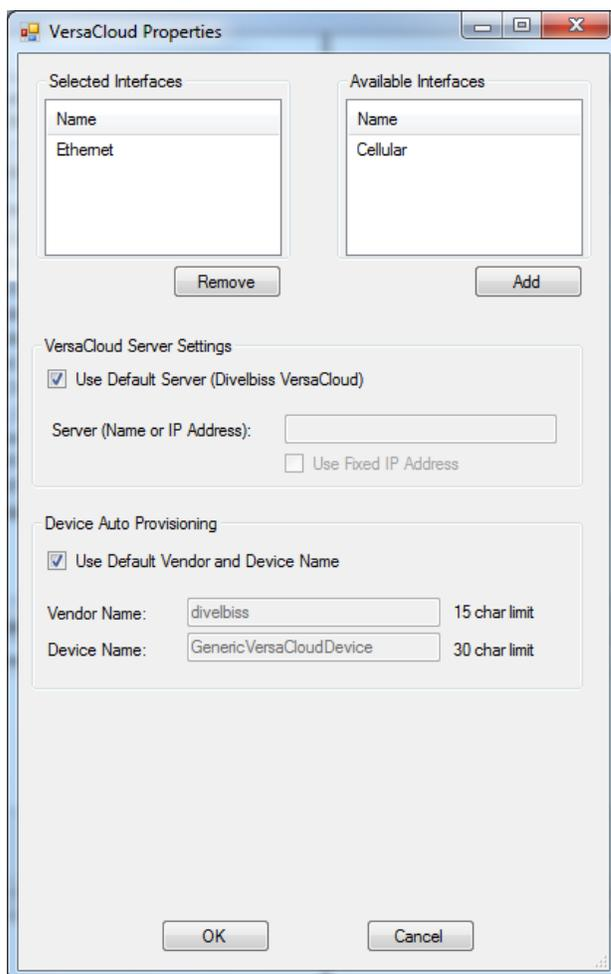

Figure 2-42 - VersaCloud Properties
- Click **OK**. The **VersaCloud Properties** Window will open. Refer to Figure 2-42. This window is used to select the interface (communications method) between the VersaGateway and the VersaCloud M2M Portal (Cloud server). The **Available Interfaces Pane** and the **Selected Interfaces Pane** are used for the selection.